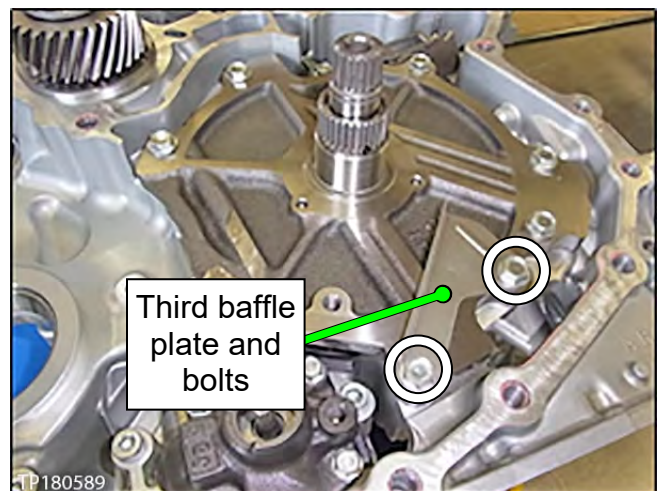

Figure 44
6. Remove the two (2) bolts, and then remove the third baffle plate (see Figure 44).